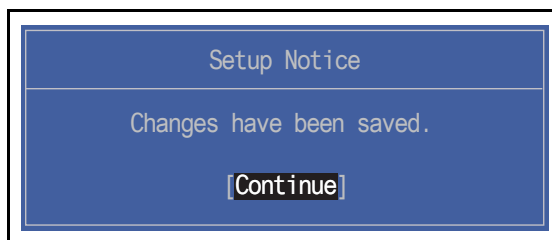

Figure 2-5. Setting a Password Confirmation Notice
4. If new password and confirm new password strings match, the `Setup Notice` dialog screen is shown (Figure 2-5). If it is not, go to step 5.